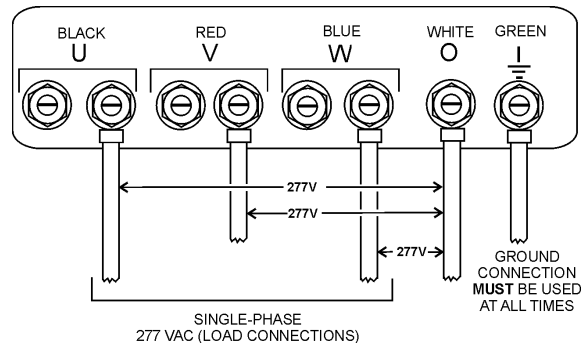

Figure 27. UVWO Terminal Lugs 1Ø-277V Connections
2. Connect the load wires to the UVWO terminals as shown in Figure 27.